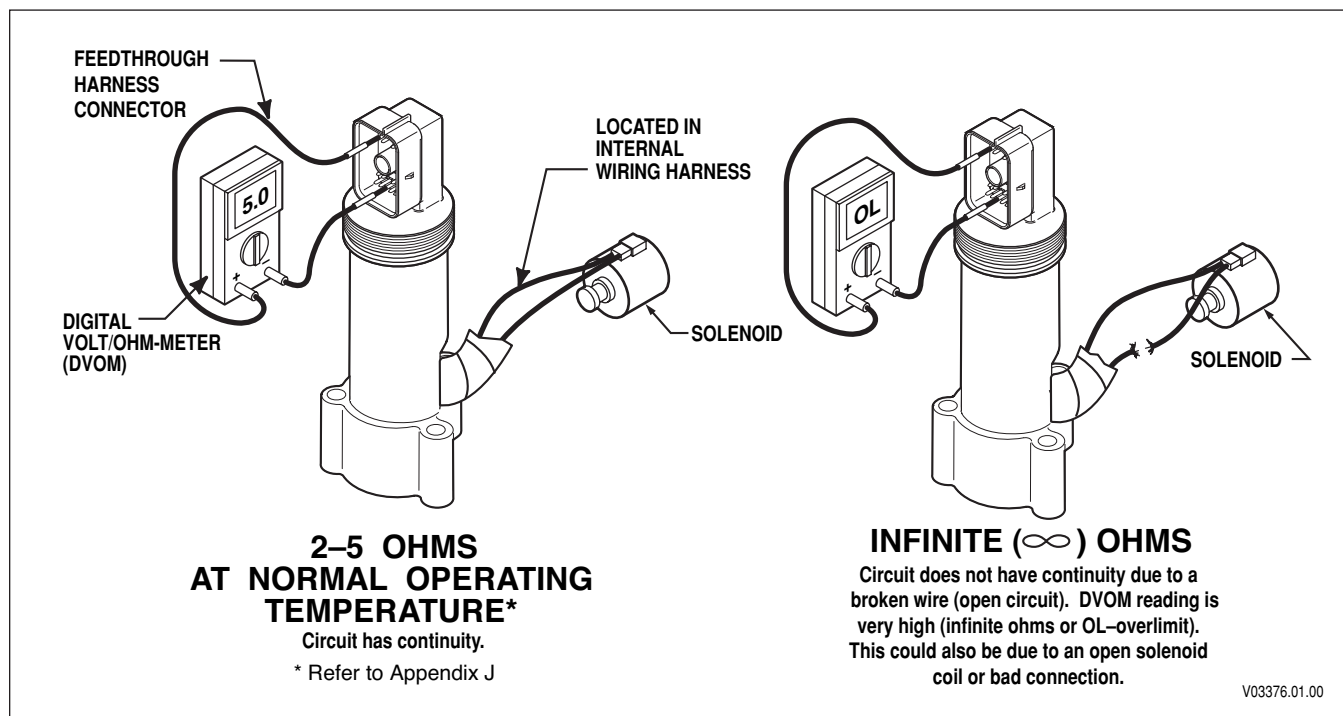

Figure 4-3. Checking Continuity
3. If the connectors are clean and connected correctly, determine which wires in the harness to test. Use the diagnostic code system schematic to locate the wire terminals. For this example, Code P0960 indicates an open in the Main Mod solenoid circuit, wires 111 and 174 (Figures 4-3 and 4-4).